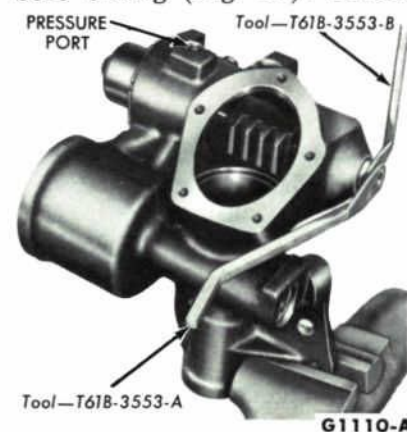

FIG. 42—Valve Spool Preliminary Centering
2. If the difference is more than 3 in-lbs (or 1/2 pound at the wheel rim), remove the valve spool adjuster cap (Fig. 41). Loosen the lock nut and turn the adjuster (using the tools shown in Fig. 42) in the direction of the lesser reading. Tighten the lock nut. For example: If a left turn requires a 7 in-lb pull, and a right turn requires a 12 in-lb pull turn the adjuster to the left until equal effort is required for a turn in either direction. Install the adjuster cap.
2. Install the bearing adjuster and lock nut, and check the worm bearing preload (Fig. 45). Always make final adjustment while tightening the adjuster. Install the valve spool centering wrench (Fig. 42) on the valve spool adjuster, and locate the valve spool so that the valley between the lands can be seen through the pressure port. Lock the adjuster with the lock (Fig. 42). This is only a preliminary adjustment. Make final adjustment on the car.